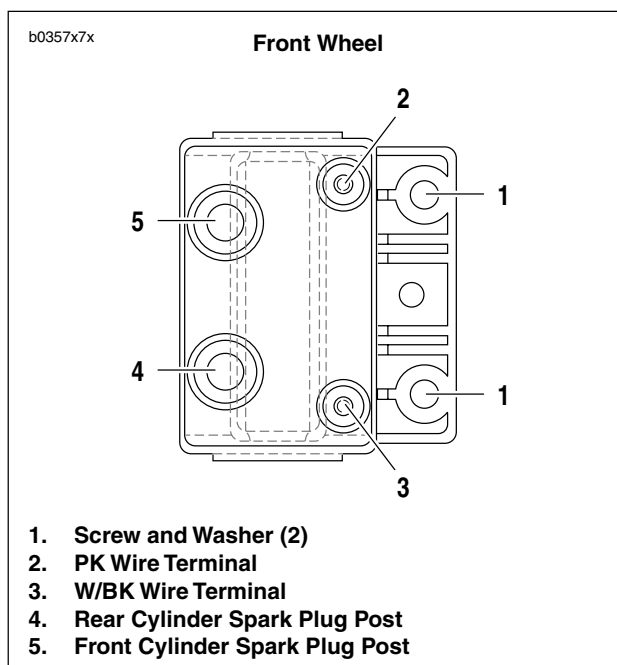

Figure 7-21. Coil Viewed From Above
3. See Figure 7-21. Disconnect spark plug cables from coil plug posts (4, 5).
5. Remove two screws and washers (1). Coil will drop from frame mounts.
1. See Figure 7-21. Attach coil to frame with screws and washers (1). Tighten to 4-6 ft-lbs (5-8 Nm).
- a. Connect PK wire to forward terminal (2).
- b. Connect W/BK wire to rear terminal (3).
3. Connect spark plug cables to ignition coil. Longer cable attaches to rear post (4) and rear cylinder spark plug.